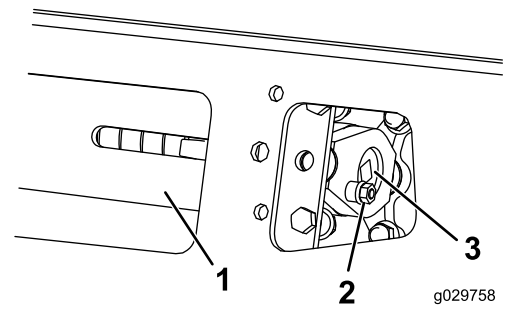

Figure 59
5. Align the closest notch in the tension screw to the locking-bolt hole and secure the screw with the locking bolt and nut (Figure 59).
3. Remove the locking bolt, spacer, and nut (Figure 59).
4. Remove the locking bolt and nut (Figure 59).
5. Using a 1/2-inch drive ratchet, release the drive tension by turning the tensioning screw clockwise (Figure 59 and Figure 65).